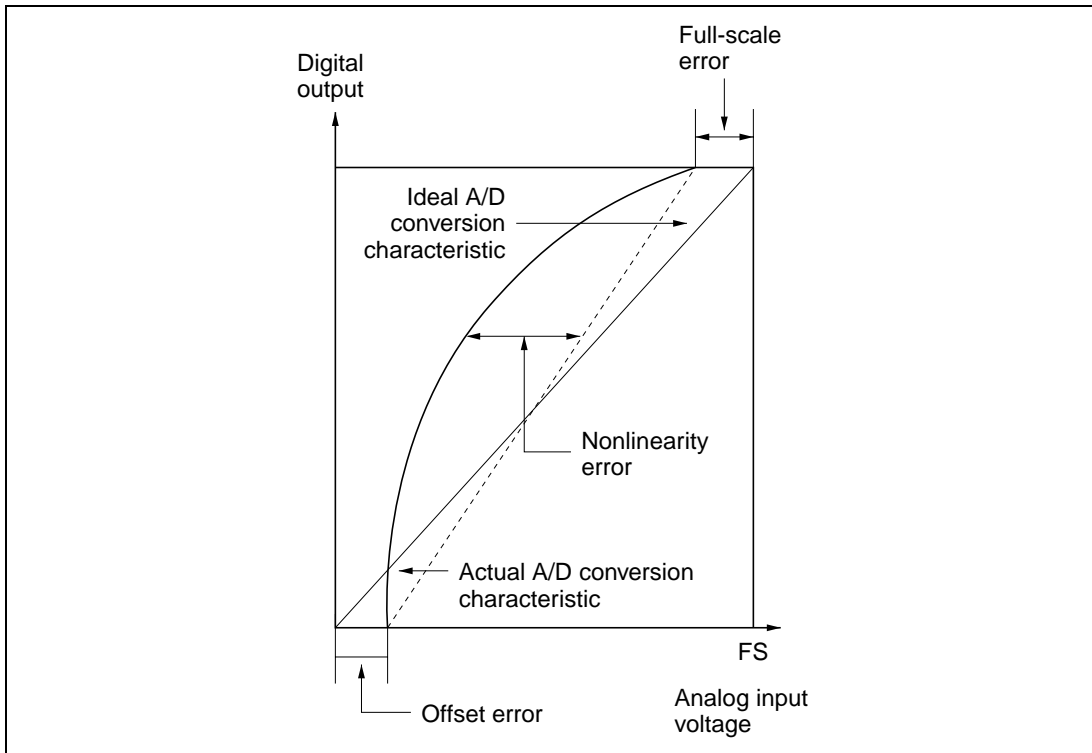

Figure 15.10 A/D Converter Accuracy Definitions (2)
- Offset error:.....Deviation from ideal A/D conversion characteristic of analog input voltage required to raise digital output from minimum voltage value 0000000000 to 0000000001 (figure 15.10)
- Full-scale error:Deviation from ideal A/D conversion characteristic of analog input voltage required to raise digital output from 111111110 to 111111111 (figure 15.10)